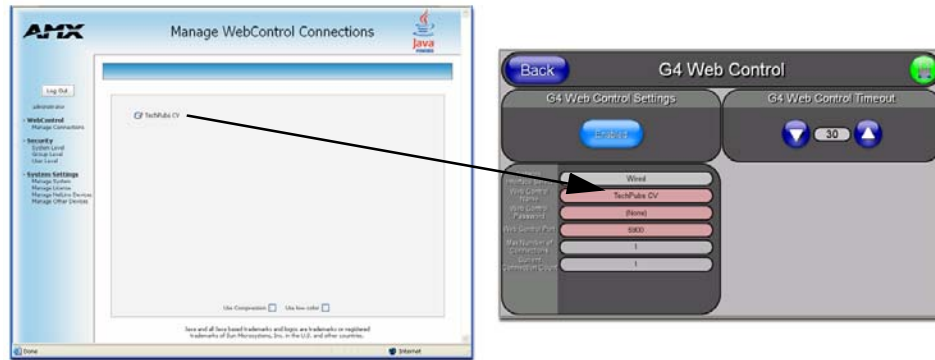

FIG. 73 Sample relationship between G4 Web Control and Manage WebControl Connections window
9. From the Web Name keyboard, enter a unique alpha-numeric string to identify this panel. This information is used by the NetLinx Security Web Server to display on-screen links to the panel. *The on-screen links use the IP Address of the panel and not the name for communication (FIG. 73).*